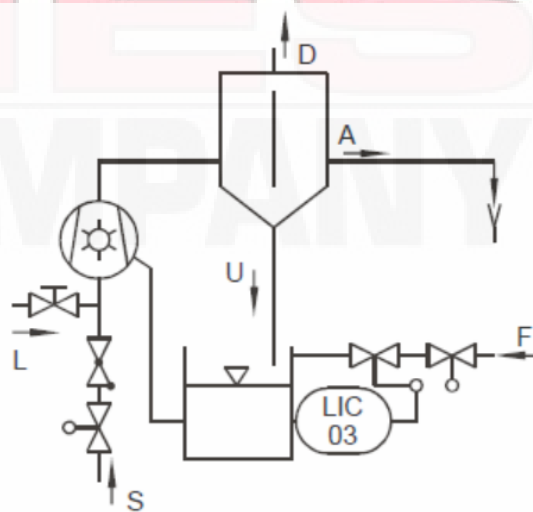

Fig. 13 Open circulation cooling
- Set the pressure in the operating liquid pipe to a value which is 0.1 bar smaller than the compression pressure (Diagram Fig. 13)